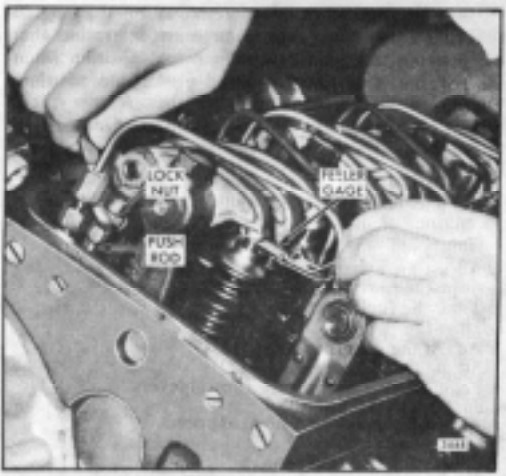

Fig. 1. - Adjusting Valve Clearance
5. Place a .012" \pm .004" feeler gage (J 9708-01) between the valve stem and the rocker arm bridge (Fig. 1). Adjust the push rod to obtain a smooth "pull" on the feeler gage.